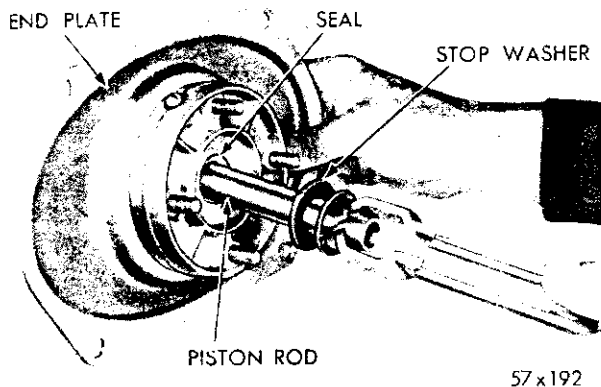

Fig. 57—Removing the Piston Rod from the End Plate
(10) Remove the return spring, slide the piston rod out from the end plate, as shown in Figure 57. Remove the rubber stop washer.